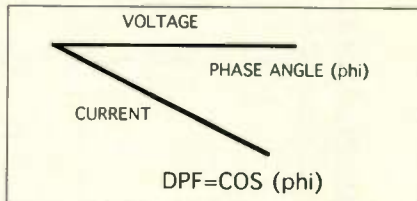

FIGURE 3
The ratio of the kW to kVA at the power line frequency of 50 or 60 Hz is known as power factor (PF), or displacement power factor (DPF) (fig. 3). The current is displaced in time from the voltage. This refers specifically to the phase shift, described as the cosine of the phase angle (ϕ). In these cases, apparent power, kVA, can be larger than active power, kW. Due to this phase shift of the fundamental current, the current must be larger to produce the same active power. In this way, kVA becomes larger because of this larger current.